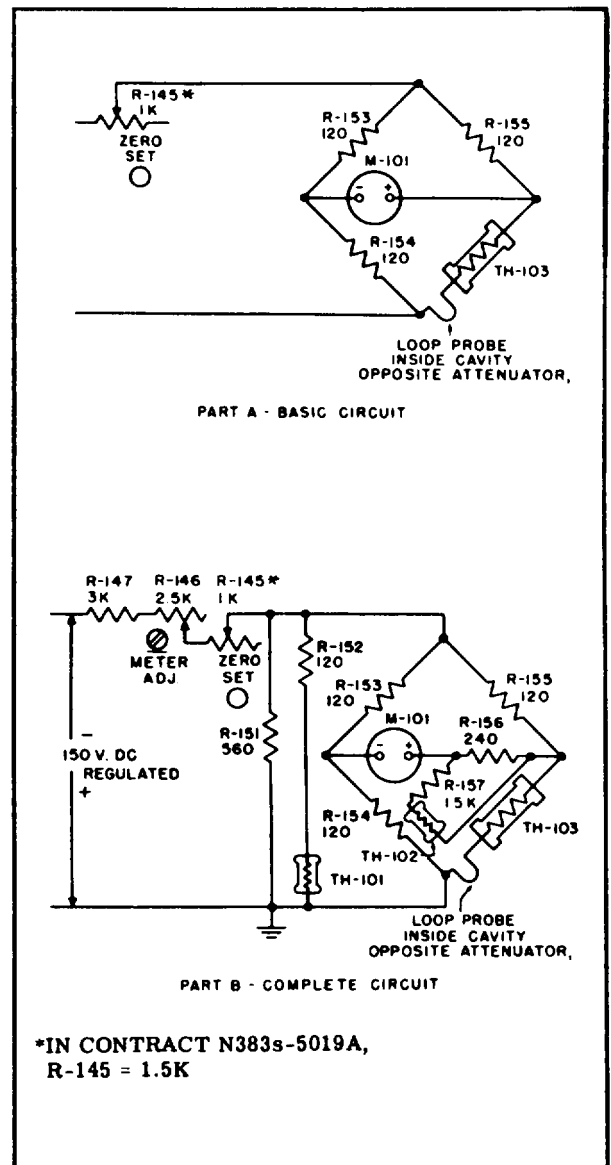

Figure 3-3. Signal Generator TS-419/U, Power Monitor Thermistor Bridge, Schematic Diagram
(1) GENERAL.—As stated in paragraph 4.a. (2), this section, the loop in tube Y-105 feeds power into the power monitor system. The power monitor system is a thermistor bridge circuit that includes the panel meter M-101, used in determining the output power level. Bead and disc thermistors are used in the signal generator. The bead thermistor TH-103 has a small mass and is used for power measurement. It is located in the cavity, and changes in its resistance can be caused by thermal changes in environment, by direct currents flowing through it, or by absorbed r-f power. The two disc thermistors TH-101 and TH-102 have a much larger mass. They are mounted outside the cavity and their resistance is dependent primarily on the ambient temperature.
(2) BASIC THERMISTOR BRIDGE CIRCUIT. (See figure 3-3.)—The basic thermistor bridge circuit is
shown in part A of figure 3-3. The bridge consists of R-153, R-154, R-155, and bead thermistor TH-103. Current will not flow in meter M-101 when the bridge is balanced. The bridge is balanced when the resistances meet the following conditions:
(3) COMPLETE THERMISTOR BRIDGE CIRCUIT. (See figure 3-3.)